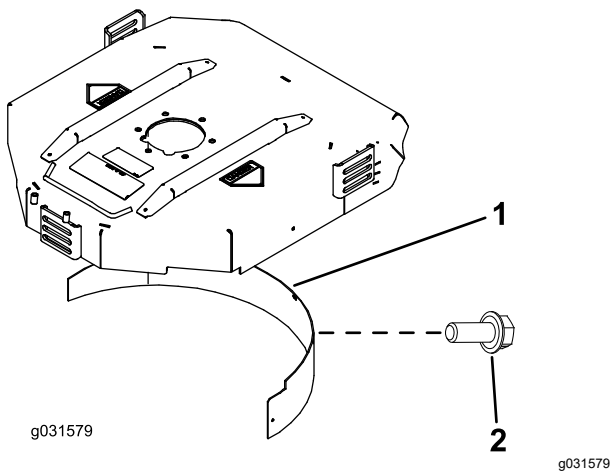

Figure 20
2. Install the mulching baffle in the rear opening and secure it with 5 flange-head bolts (Figure 20).